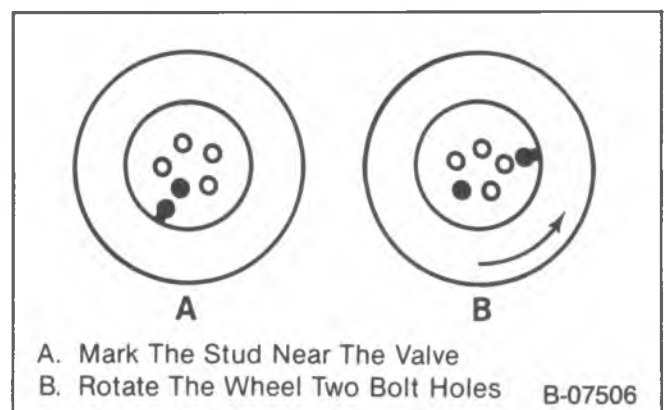

Figure 6—Tire and Wheel Assembly to Hub/Rotor Vectoring
- Mark the wheel hub bolt nearest the valve stem for reference (figure 6).
- Rotate the assembly two wheel hub bolts and recheck the runout (figure 6).